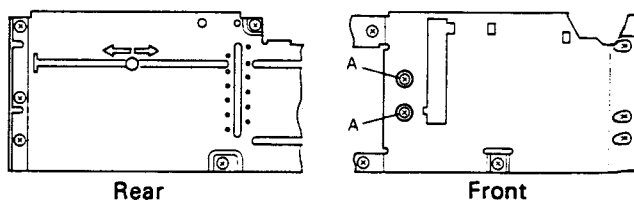

Fig. 4
1. By moving the elevation on the back, make alignment so two screws A are visible through two holes on the front. Remove two screws A. (The elevation can be operated when the stage mechanism part (going up and down) is put in the state of tray return completion.) (Fig. 4 and 5)